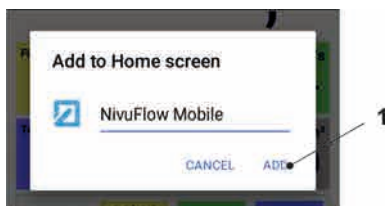

Fig. 31-8 Confirm adding
9. Use "Add" to confirm (Fig. 31-8 no. 1).